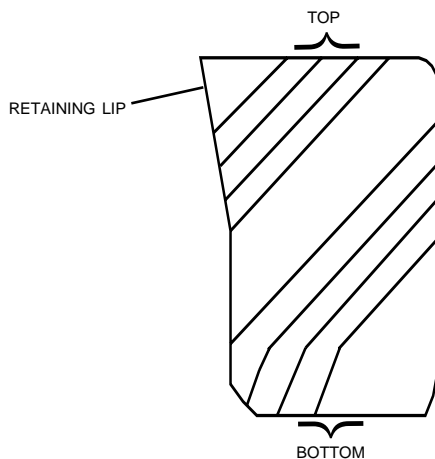

FIGURE 2: Quad Seal (profile)
- 4: To install the new seal, place the top part of the seal (the top side has the retaining lip) into the base of the packer. The retaining lip is upward per Figure 2.